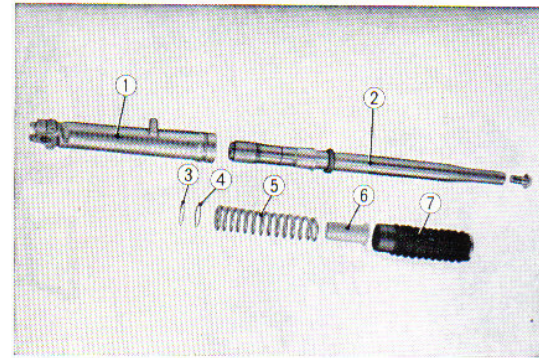

Fig. 4.20 Component parts of front fork
- ① Free length
- ② Loaded length
6. Disassemble the front fork pipe assembly by removing the fork piston snap ring, front fork piston, piston stopper ring, front damper valve, front valve stopper ring, fork pipe stopper ring, and front fork pipe guide, in that order. (Fig. 4.20)